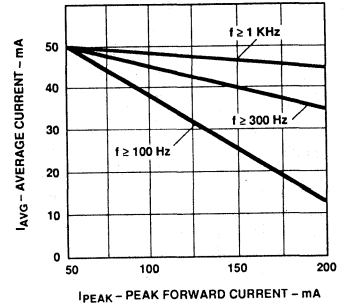

Figure 5. Maximum Average Current vs. Peak Forward Current.
2. Refer to Figure 5 to establish pulsed operating condition.